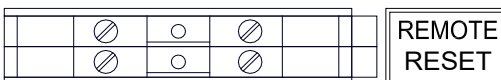
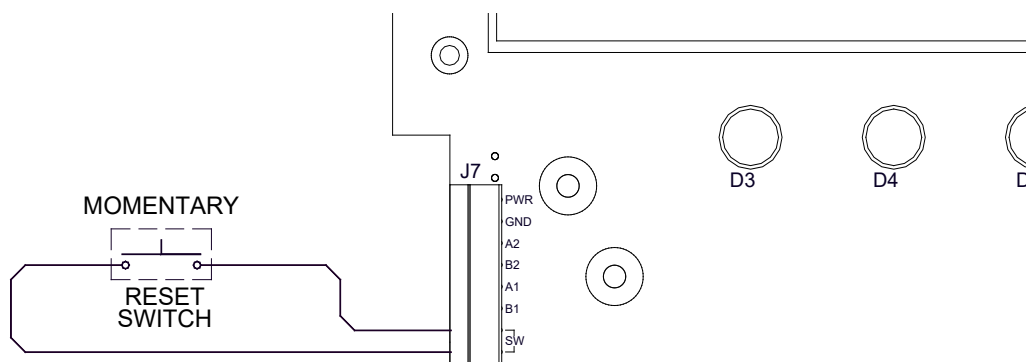

Figure 39 N1P & N4X Remote Switch Input
Figure 40 N7 Remote Switch Input
- b. Connect the Remote Alarm Reset/Acknowledge switch to the terminals of the terminal block labeled "REMOTE RESET" for the N1P and N4X controllers (Figure 39). For the N7 controller, connect the switch to the terminals "SW" on connector J7 (Figure 40) Once installed, pushing the switch will execute the reset/acknowledge function.